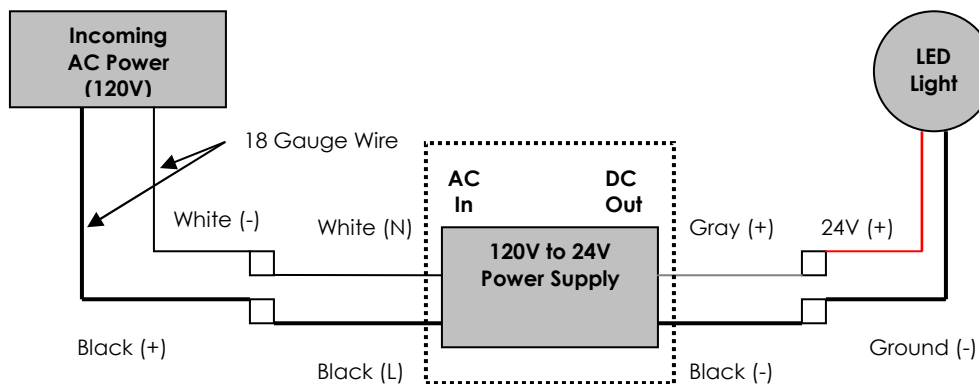

Figure 1 – AC Wiring Diagram
5. **AC Version-** Attaching the power supply to the building's power: Using wire nuts, first attach the black wire (load) on the power supply to the buildings' black wire. Next, attach the White wire (neutral) on the power supply to the buildings' white wire (See Figure 1).
6. **AC Version-** Attaching the power supply to the light: Using wire nuts, first attach the black wire on the power supply to the black wire (negative) on the light. Next, attach the gray wire (positive) on the power supply to the red wire (positive) on the light (See Figure 1). Test light to ensure all connections work.